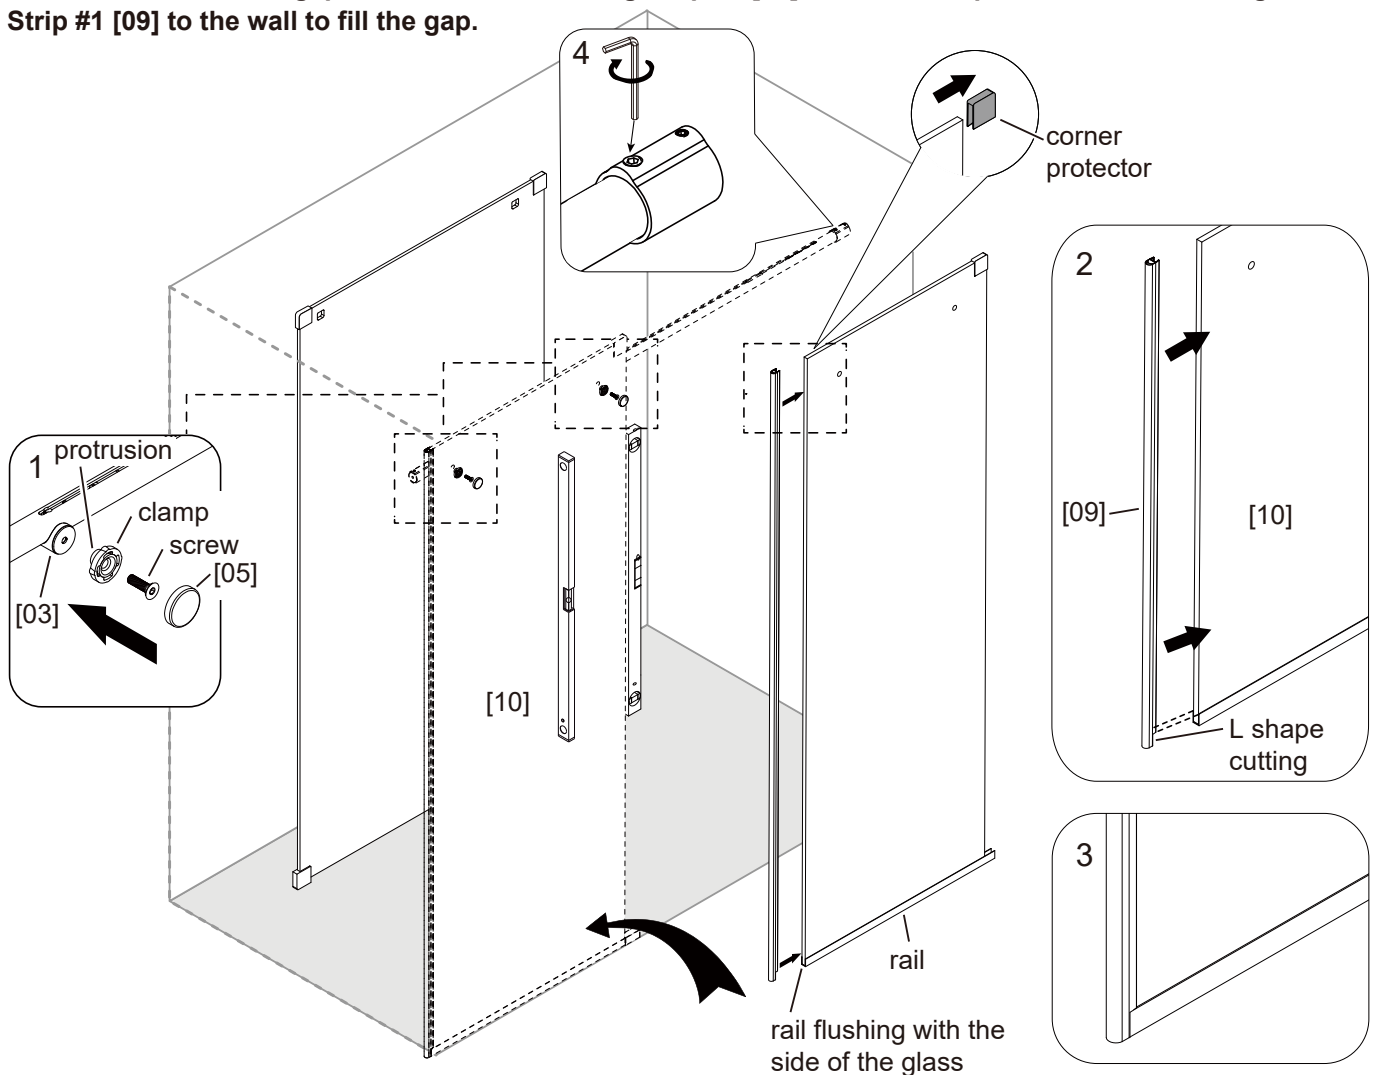

Fig 5
4. Push the **Fixed Panel [10]** to the wall and adjust it to a vertical position. Install the **clamps** to the holes of **Fixed Panel [10]**. The **protrusion** of the **clamp** faces to the **Fixed Panel [10]**. Install the **screws** through the **clamps** to the **Fixed Blocks [03]** and tighten them to secure. Install the **Covers [05]** to the **clamps**. (Fig 5, Fig 5.1)